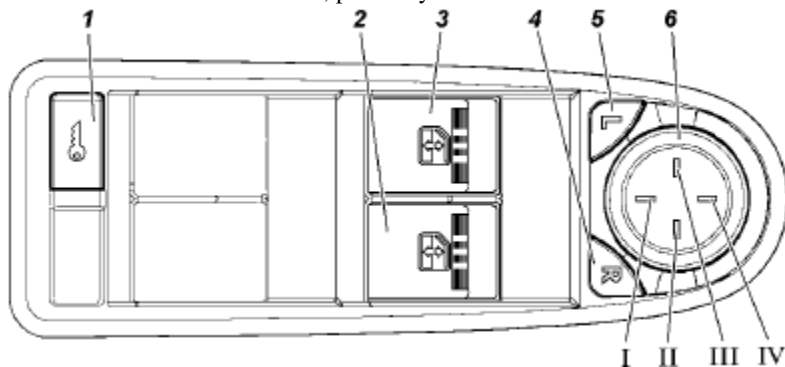

Fig. 3.14. Driver Side Door Switch Module with Multiplex Control:
The system can be switched over to the fast driver side door unlocking mode when, by single pressing button 2 of the RCP or turning the key in the driver side door key hole, only the driver side door is unlocked and, when pressing button 2 on the RCP or button 1 (Fig. 3.14) of the DSDM again, all other side doors and the T/gate are unlocked.
- press switch 1 (Fig. 3.14) of the DSDM. Every press either locks or unlocks the locks.
Window glass position is controlled by the switches located on the armrests of the respective motor vehicle doors. Side door window positions are controlled by switches 2 and 3 (Fig. 3.14) located on the driver's seat armrest.
Control of the electric drives of the left and right exterior mirrors is performed by a single switch 6 (Fig 3.14) located on the DSDM. Choice of the mirror to be adjusted by commands from the mirror switch is performed by one of the switches 6 or 7 of the DSDM — the mirror selection buttons. Simultaneous adjustment of the left and right mirror positions is not possible.